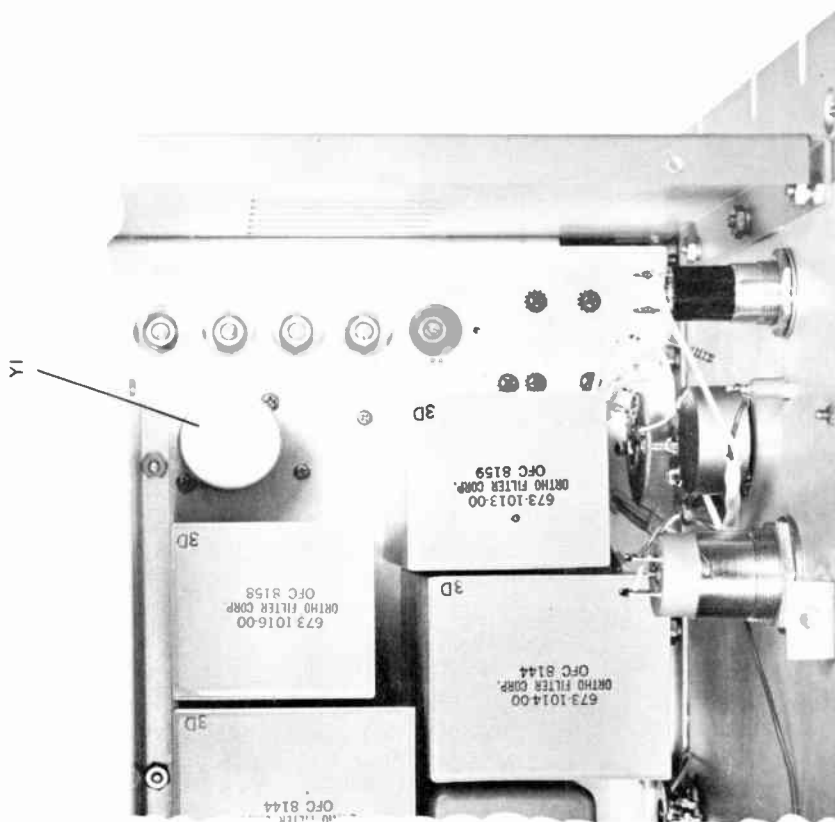

Figure 2-3. Local Oscillator Crystal Location
a. Determine the proper crystal operating frequency by referring to table 2-2. Place a crystal whose frequency matches the frequency determined from table 2-2 in the position shown in figure 2-3. Table 2-2 shows each crystal frequency possible for each channel of the FM spectrum and the Collins part number of each.